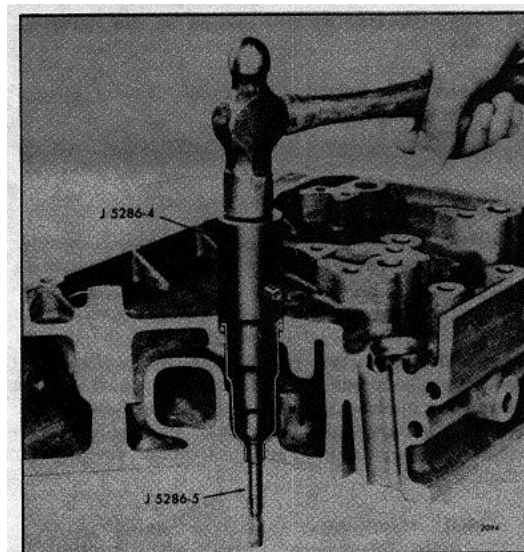

Fig. 2 Installing Injector Tube
2. Place the installer J 5286-4 in the injector tube. Then insert the pilot J 5286-5 through the small opening of the injector tube and thread it into the tapped end of the installer (Fig. 2).
3. Slip the injector tube into the injector bore and drive it in place as shown in Fig. 2. Sealing is accomplished between the head counterbore (inside diameter) and outside diameter of the injector tube. The tube flange is merely used to retain the seal ring.